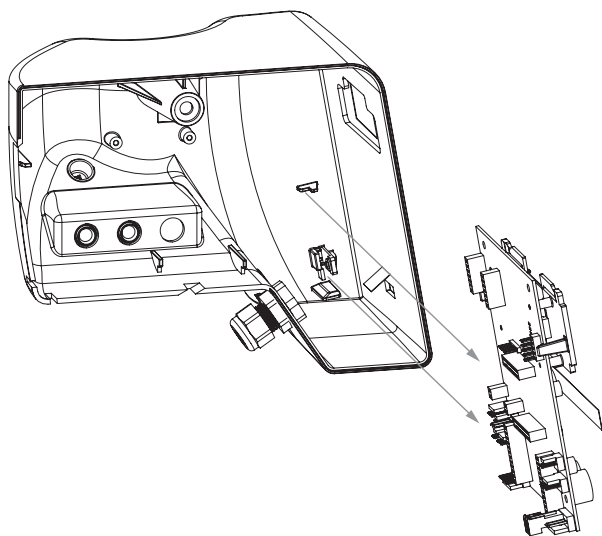

Figure 57. Remove circuit board.
3. Grip the circuit board from the edges and gently rotate it to the back of the enclosure (disengage the circuit board from the two support pins on the bottom of the enclosure). See Figure 57.